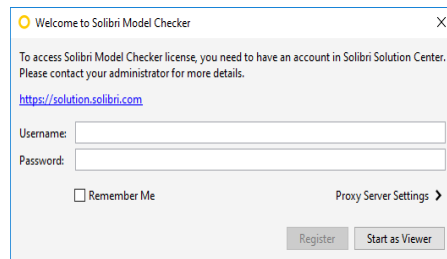

Figure 2: Registration window
- 2) 'Welcome to Solibri Model Checker' window opens → Insert your Username and password and click Register (see Figure 2)